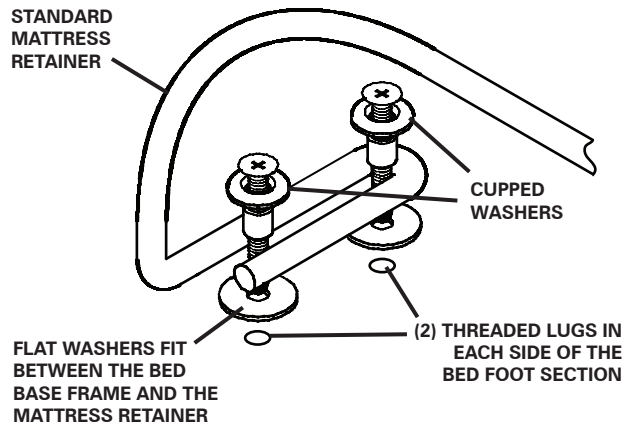

FIGURE 5: Standard mattress retainer installation.
b. Install the mattress retainer bolts (loosely) into (4) threaded lugs in the top side of the bed base at the foot section (**FIGURE 5**).
c. Slide each U-shaped end of the mattress retainer around the mattress retainer bolts. Position the retainer ends with the cupped washers on top (**FIGURE 5**).